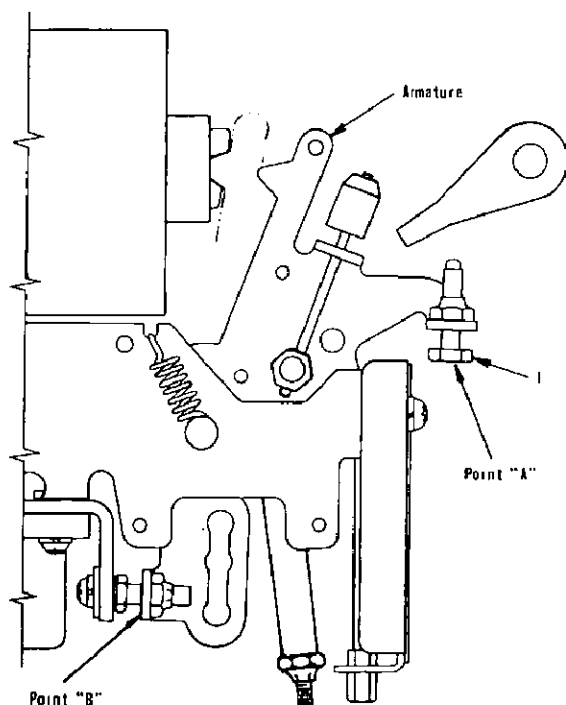

Fig. 18 — Armature Trip Travel Adjustment
1. (See Fig. 18). Back out on the two trip adjusting screws (1) until the screws are engaging the nut by approximately two turns.
3. Using a one-foot long (approximate) stick, push up on the long-time armature, thick armature, at point "A", and hold it tight against the magnet. (When pushing, allow time for the oil dashpot to displace the oil.) While holding the armature in this position by pushing at point "B", turn up on screw (1) until the circuit breaker just trips. Continue to turn the screw an additional one turn. NOTE: During this adjustment operation, hold the armature firmly against the magnet, but do not exert excessive force that will result in incorrect adjustment due to distortion.
4. Charge springs and close circuit breaker. Push up on the thin armature and adjust screw (1) using the same procedure as in step 3 above.